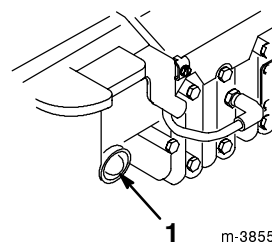

Figure 11
2. Push the primer three times (five times if the temperature is 13°C/55°F or below), waiting two seconds between each push (Fig. 11).